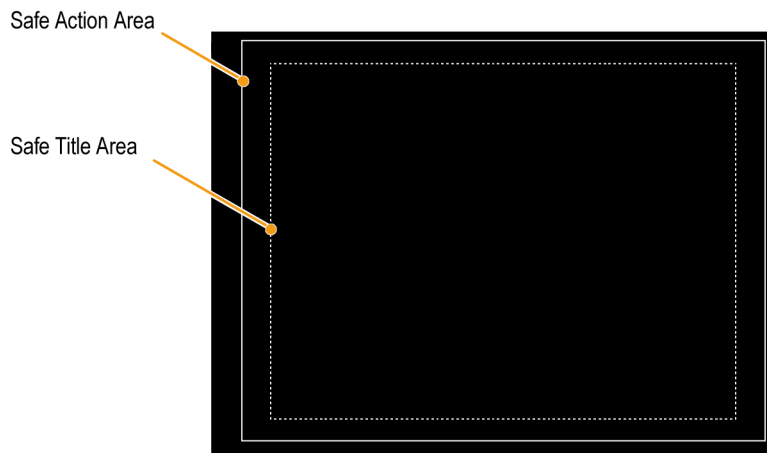

Figure 77: Safe Action and Safe Title areas
- The Safe Action Area shows the maximum image area within which all significant action should be contained; the Safe Title Area shows the maximum image area within which all significant titles should be contained. (See Figure 77.)